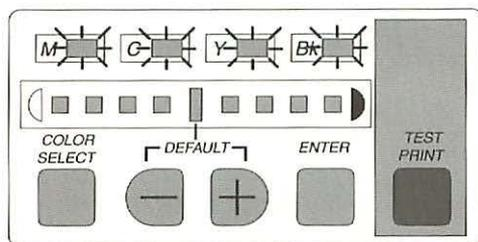

Figure 35. Test Pattern Selection Mode
Test pattern selection mode (see Figure 35) allows you to select one of six test page patterns based upon which one would best confirm a print quality issue.
1. Hold down the **COLOR SELECT** button and press the **ENTER** button eight times. The four toner lights will flash to indicate that you are in the test pattern selection mode (Figure 35).